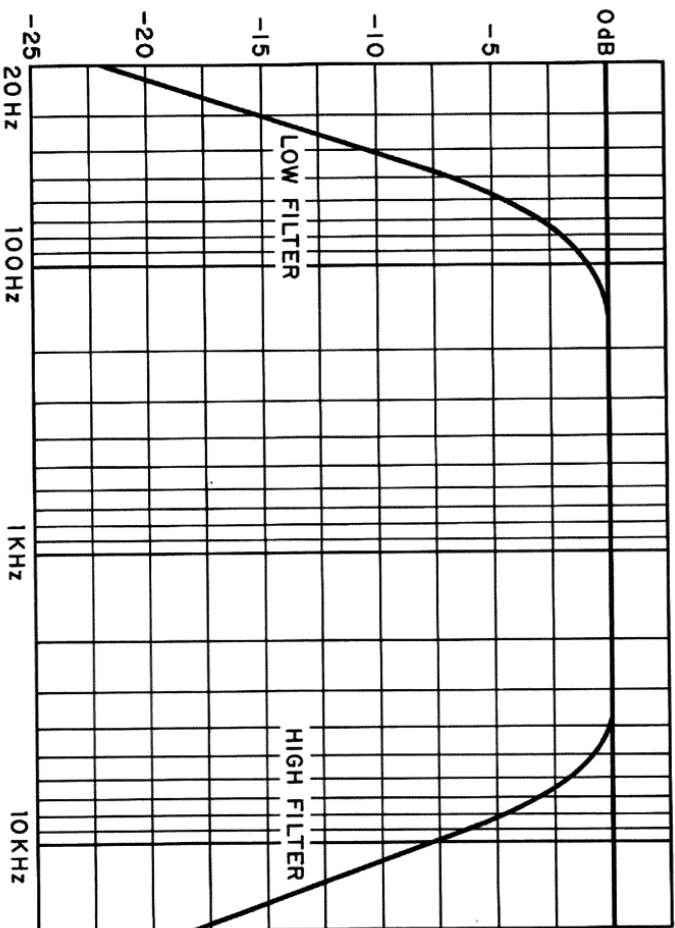

Figure 16. Low and High Filter Characteristics
**Filter** or the **Lo Filter** switch is engaged, a filter network is switched into the feedback loop to attenuate the response of the circuit at a rate of 12 dB/octave. These networks provide a double time-constant transfer function characterized by a sharp cutoff (3 dB down at 70 Hz and 7 kHz for the low and high filters respectively). Figure 16 shows the frequency response curves resulting from use of the two filters.